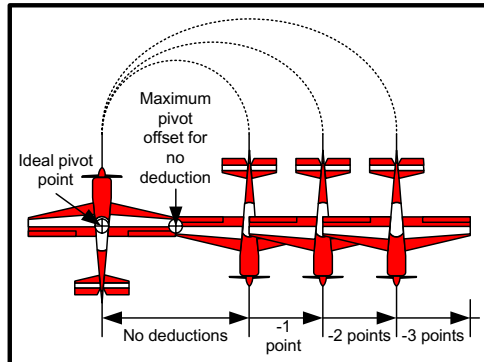

Fig. 22
- i) Any pendulum movement observed after the pivot is subject to downgrade using the one (1) point per ten (10) degree rule.
Ideally, the aircraft pivots around its center of gravity. To avoid a deduction, the aircraft must pivot around an axis point, which cannot be farther away from its center of gravity than its wingtips (1/2 wingspan). The downgrade for this deviation is one (1) point per half wingspan that the point of rotation exceeds the maximum allowed (Fig. 22).